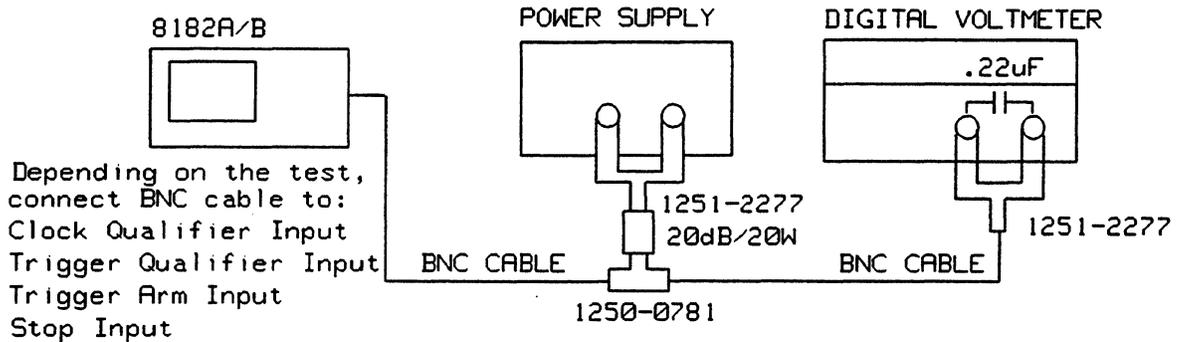

Figure 12-9. Test Setup for the Qualifier Threshold and Impedance Test
5. Connect the equipment as shown in Figure 12-9 and press RUN.
6. Connect the equipment as shown in Figure 12-9 and press RUN.